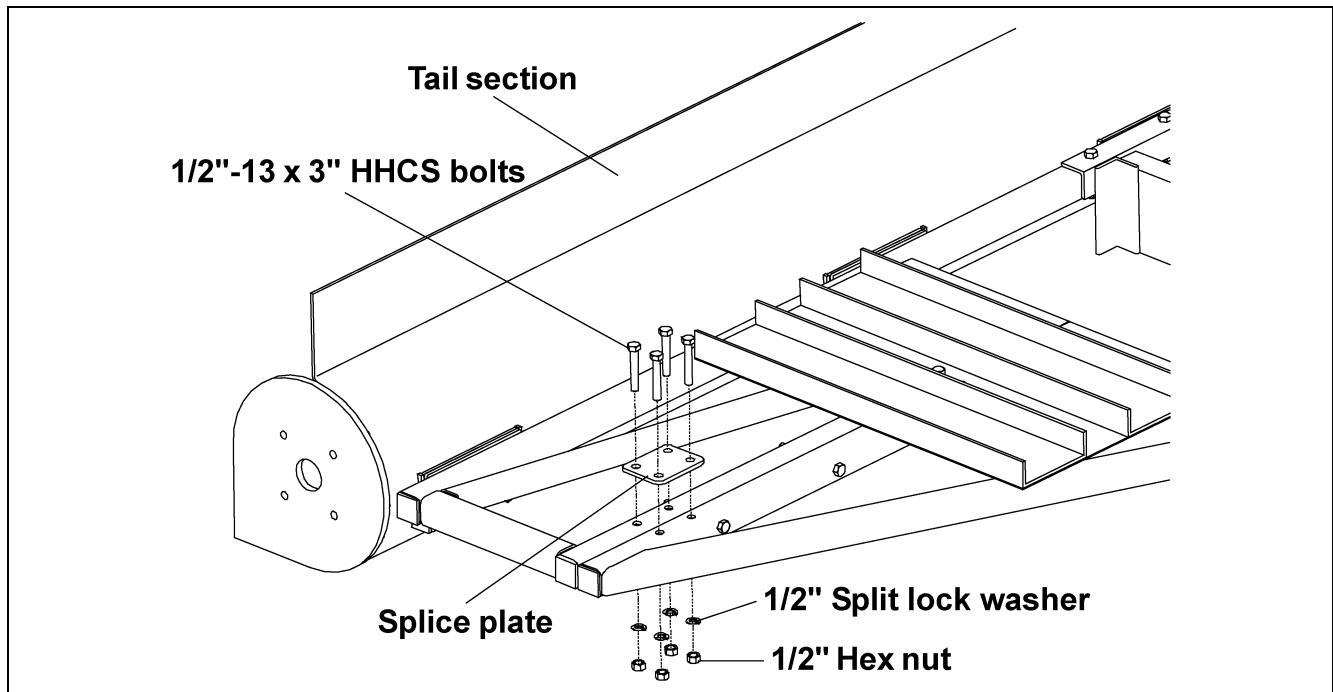

Figure 5H
8. Fasten splice plates to tail frame using eight (8) 1/2"-13 x 3" HHCS bolt, split lock washers and hex nuts. (See Figure 5H.)